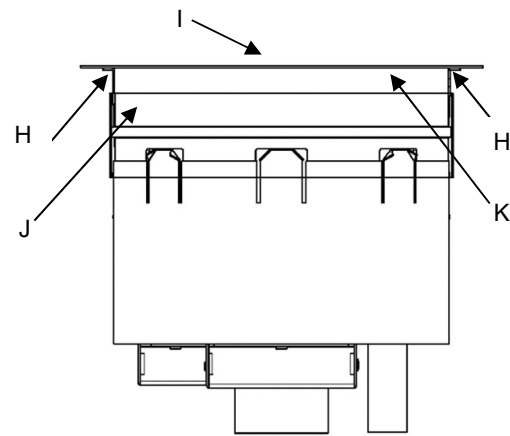
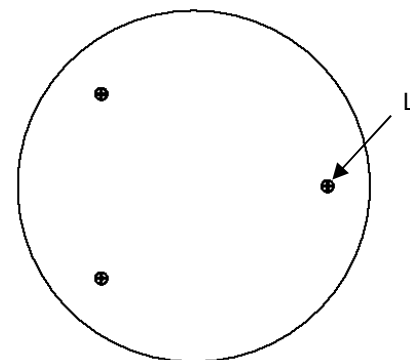

Fig. 4
Fig. 5
6. Insert 8 inch service fitting into cored hole. Press down onto installation plate (I) until brackets (H) in Fig. 4 sit flush against the floor. On smaller diameter core drilled holes some shearing of the flexible intumescent gasket material (J) may occur.
7. For power applications, attach conduit to bottom box S1R8JNCxxx (A) series per all code requirements. Data does not require to be attached to conduit. Make all wiring, conduit and junction box connections in accordance with applicable codes.
8. Remove the installation plate (I) and spacer (K), see Fig. 4. If the installation plate (I) will be reinstalled, retain the the spacer (K), and screws (L). See Fig. 5.